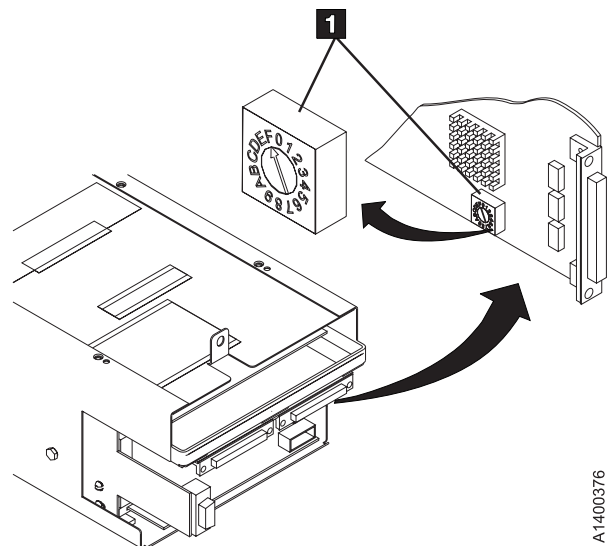

Figure 323. SCSI Card mode switch
2. See Figure 323. There is a selectable mode switch **1** on the bottom of the SCSI card in the Model E11/E1A card pack. Future microcode releases may use this switch for model or mode selection. This switch should be set to the "F" position for Model E11/E1A applications.